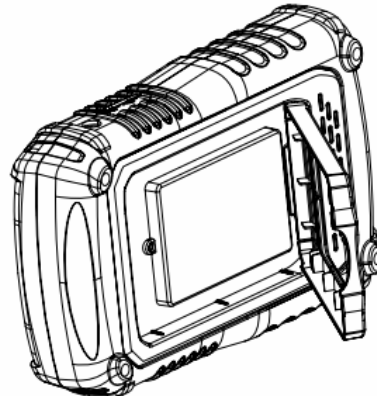

Figure 2
2. Draw back the scope's "leg" and remove the battery cap (Figure 2).